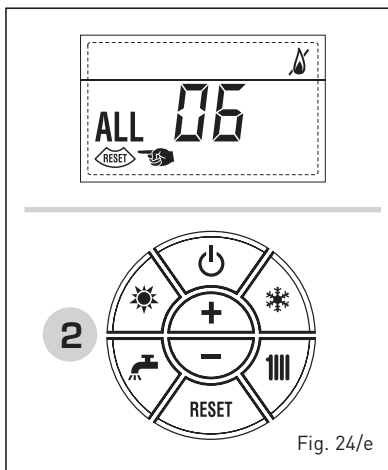

Fig. 24/e
– SAFETY THERMOSTAT ANOMALY ALARM 07 (fig. 24/f)